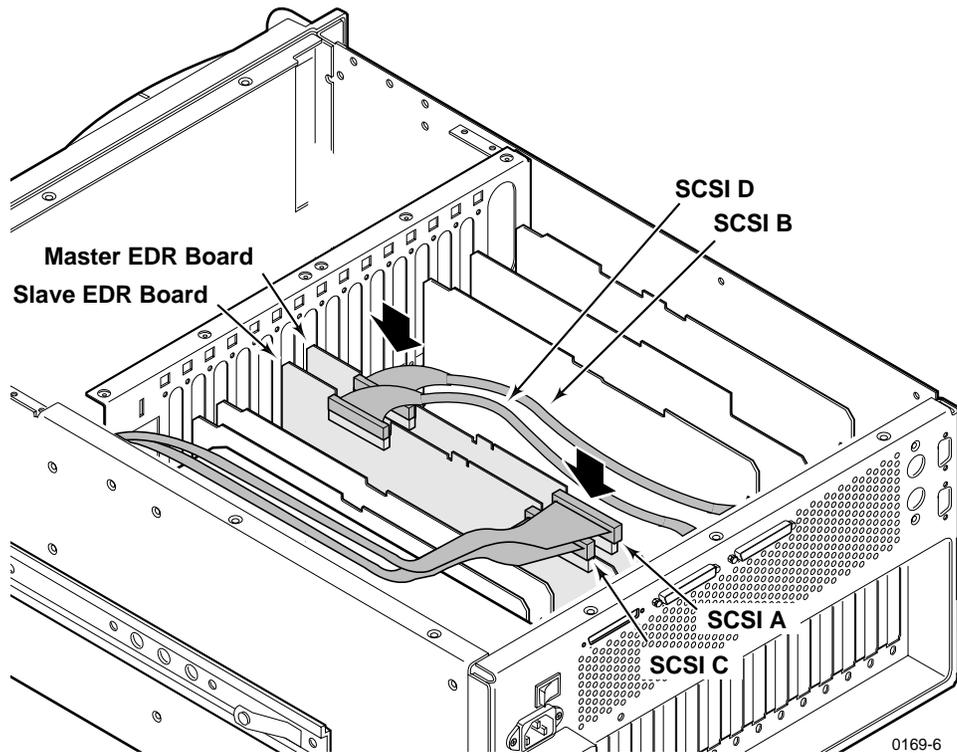

**Figure 4.** Screw locations for board mounting slot cover
4. Install the slot cover screws. Use the Torx tool with the T15 tip to install the mounting screws in the top of the slot cover inside the chassis (1 in Figure 4) and through the rear panel at the bottom of the slot cover (2 in Figure 4).
5. Install the slot cover screws. Use the Torx tool with the T15 tip to install the mounting screws in the top of the slot cover inside the chassis (❶ in Figure 4 on page 13) and through the rear panel at the bottom of the slot cover (❷ in Figure 4 on page 13).
3. It may be necessary remove the top slot cover screw that mounts any adjacent circuit boards to allow more give so board removal is easier (refer to Figure 4 on page 13 for the location of the top screw). Use the Torx tool with the T15 tip to do so.
4. Use the Torx tool with the T15 tip to remove the screws from the top of the slot cover inside the chassis (❶ in Figure 4) and the screw through bottom of the slot cover through the rear panel outside the chassis (❷ in Figure 4).
2. Install the slot cover screws. Use the Torx tool with the T15 tip to install the mounting screws in the top of the slot cover inside the chassis (❶ in Figure 4 on page 13) and through the rear panel at the bottom of the slot cover (❷ in Figure 4).